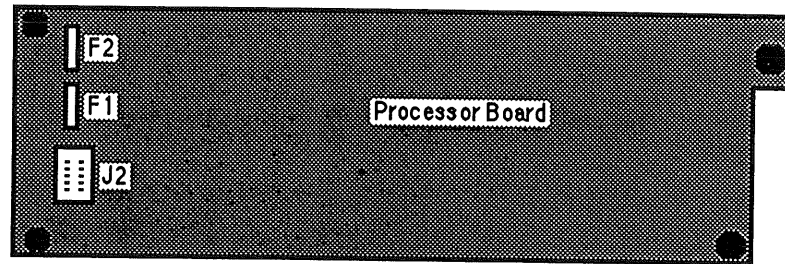

Figure 3-3. Fuse and J2 Connector Locations.
- 4) Disconnect the J2 connector from left side of the Processor Board (see Figure 3-3). Note that this connector is keyed for proper reconnection.
- 5) Two 1.5 amp resistor-type fuses (labeled F1 and F2 ) are located on the upper left corner of the Processor Board (see Figure 3-3).